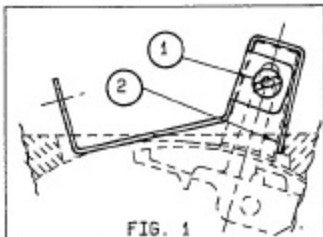

FIG. 1
3. Loosen the two screws (10-32 x 3/8") Fig. 1, Item 1, so that the blocking device can be positioned and fully seated over the toggle handle, as shown in Fig. 1.
The short lip of the blocking device, Fig. 1, detail 2, has been undercut so that a short section can be removed. To modify the blocking device for blocking a handle "ON", snap off this removable tab and discard.